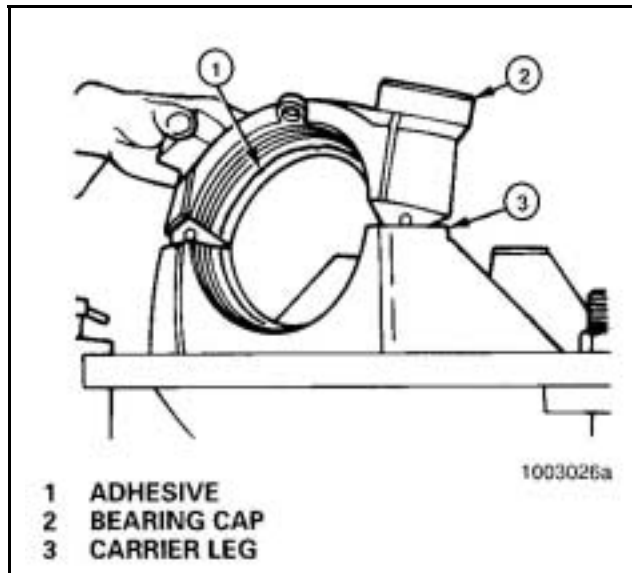

Figure 44
3. Apply a single continuous bead of the adhesive to the bearing bores in the carrier and bearing caps. Apply the adhesive 360 degrees around the smooth, ground surfaces only. **Do not** place adhesive on threaded areas. **Figure 44.**